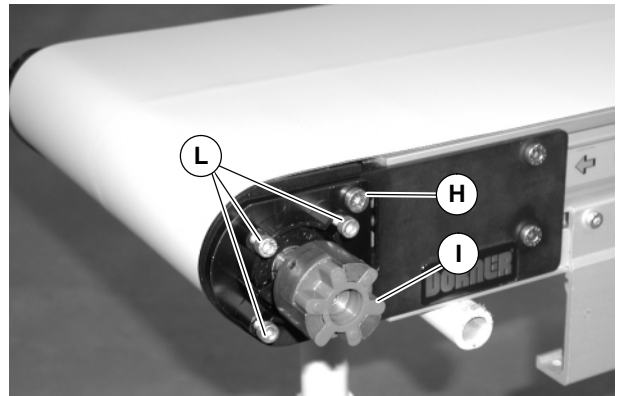

Figure 23
- b. Remove the four (4) screws (L of Figure 23) and two (2) screws (H and I)